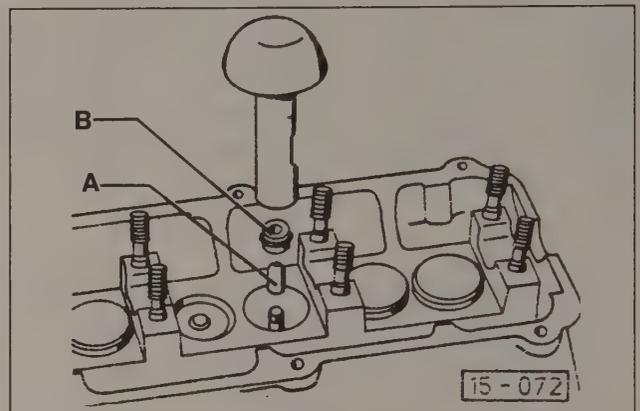

Fig. 4-18. Protective cap **A**, new valve stem oil seal **B**, and installing tool.
- Install each new valve stem oil seal by temporarily fitting the protective plastic cap over the valve stem end, and then hand-pressing the seal onto the valve stem as shown in Fig. 4-18. Remove the protective cap for use on the next valve.